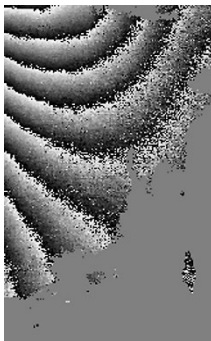

Figure 5.1 Noisy Phase Image
- An extremely noisy grayscale signal appears in the phase image. (Figure 5.1)